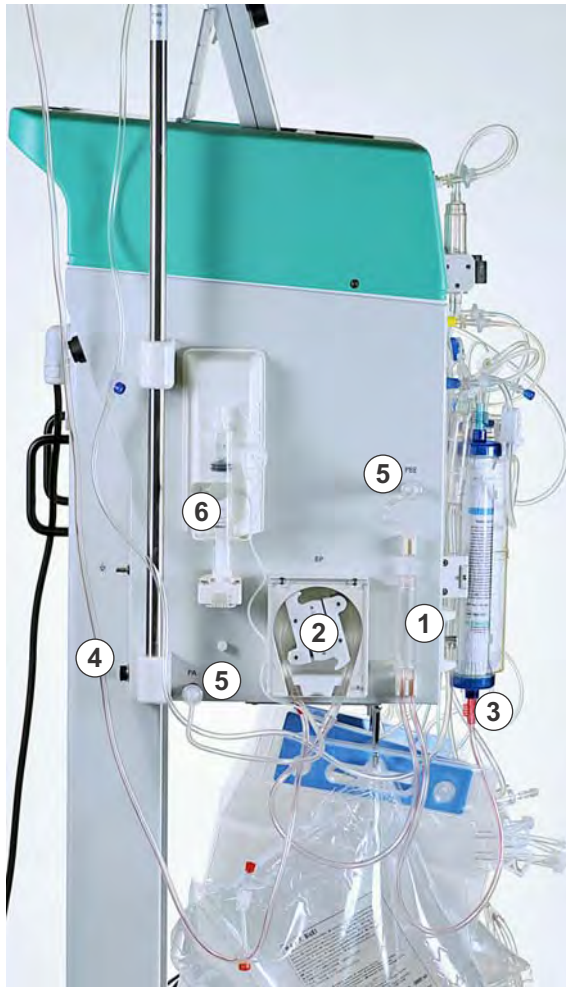

Fig. 4-13 Setting-up the arterial line
1. Place arterial chamber into the holder (Fig. 4-13, ①).
2. Place pump segment of arterial line with red marking on left side into blood pump (Fig. 4-13, ②).
3. Connect arterial feeder line to inlet of plasma filter (Fig. 4-13, ③).
4. Connect arterial line (Fig. 4-13, ④) to the prepared saline bag hanging on IV-pole.
5. Screw on the two pressure transducers (Fig. 4-13, ⑤).
8. Mount syringe on holder of heparin pump (Fig. 4-13, ⑥).